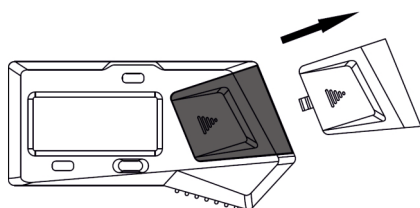

Fig.1
- » Remove the battery cover (Fig. 1).